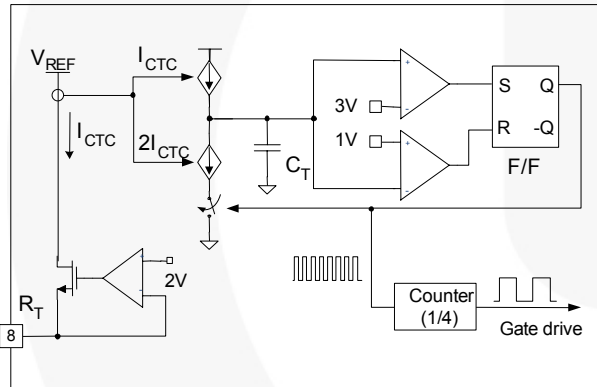

Figure 17. Current Controlled Oscillator
2. Internal Oscillator: FAN7621B employs a current-controlled oscillator, as shown in Figure 17. Internally, the voltage of R_T pin is regulated at 2V and the charging / discharging current for the oscillator capacitor, C_T , is obtained by copying the current flowing out of R_T pin (I_{CTC}) using a current mirror. Therefore, the switching frequency increases as I_{CTC} increases.